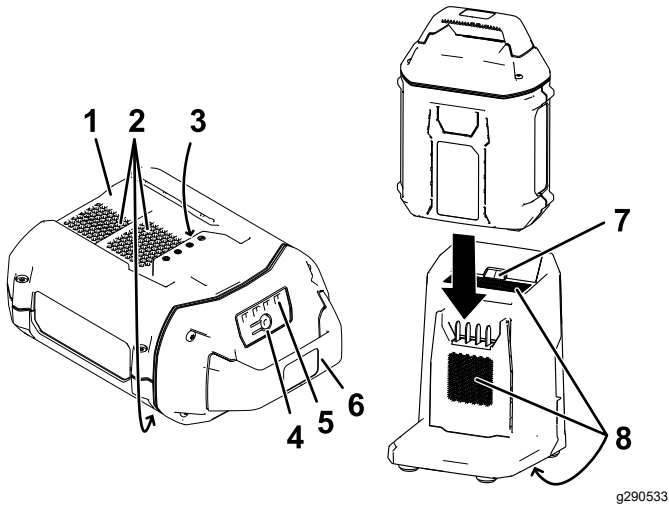

Figure 18
3. Slide the battery pack into the charger until it is fully seated (Figure 18).
2. Line up the cavity in the battery pack (Figure 18) with the tongue on the charger.